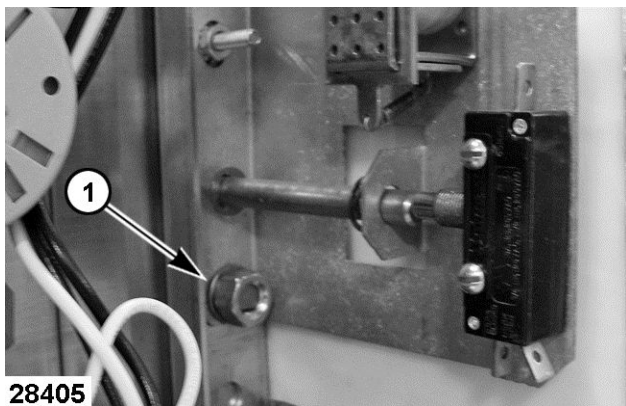

Fig. 24
- C. Remove the mounting nut and lockwasher [1] Fig. 24 from striker to release it from the front panel.